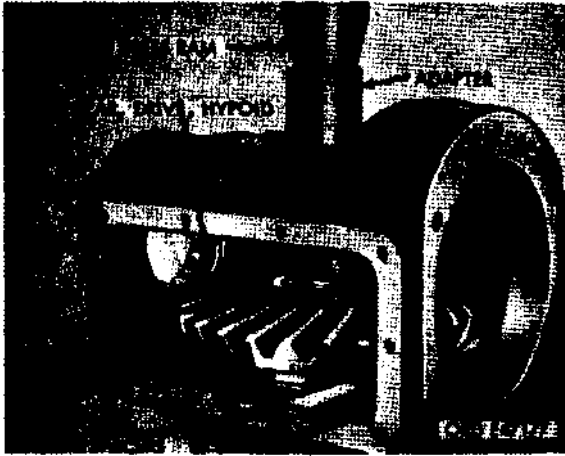

Figure 387. Pressing hypoid drive gear from helical drive pinion
- (t) Position differential carrier assembly on press, inspection hole up. Place two soft iron spacers between rear face of hypoid drive gear (fig. 387) and case. Using a suitable adapter, press helical drive pinion from hypoid drive gear.
- (n) Position original helical pinion cage shims (N), which control helical pinion outer bearing cones (J and K) preload, and which were tied to cover at time of disassembly, over long studs (M, fig. 383) next to helical pinion outer bearing cage (G). Be sure oil passage cutout is alined with oil hole in top of cage. Place helical pinion outer bearing cover (P) in position over studs with oil passage alined with oil hole in cage and shims. Install six lockwashers (R) and hex-nuts (Q), and tighten firmly. Using bearing preload tester 6870-347-5922 (fig. 390), check bearing preload reading. For new bearings, cups, and cones, the correct preload should be 12 to 18 lb.-in. maximum. When the original or used bearings are being assembled, the bearing preload should be 4 to 8 lb.-in. maximum. If correct preload is not obtained at first trial, refer to figure 387 for bearing adjustment points. When specified bearing preload is obtained, be sure cap screws are tight. Refer to figure 385.